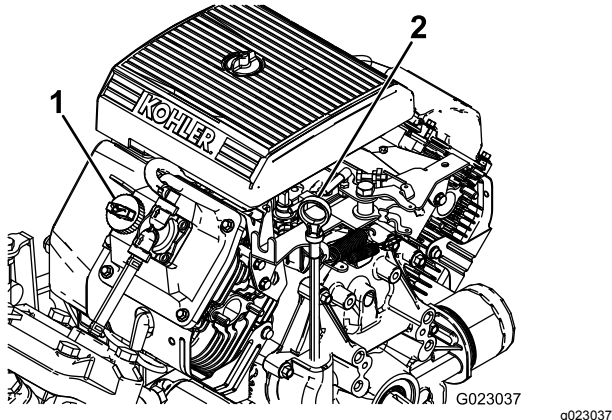

Figure 11
2. Remove the dipstick and wipe it with a clean rag (Figure 11).
4. If the oil level is low, remove the filler cap from the valve cover (Figure 11) and pour oil into the opening until the oil level is up to the Full mark on the dipstick; refer to Changing the Engine Oil \(page 42\) for the proper oil type and viscosity. Add the oil slowly and check the level often during this process. Do not overfill.